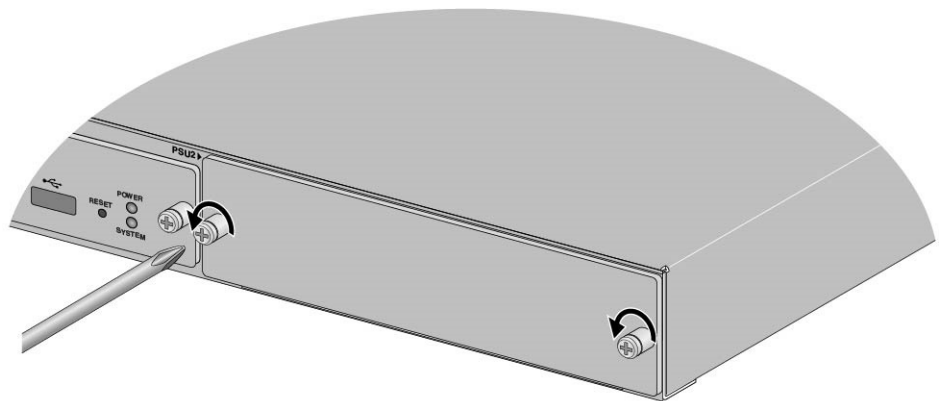

Figure 38. Loosening the Captive Screws on the Blank Cover on a Power Supply Slot
2. With a cross-head screwdriver, loosen the two captive screws on the blank cover over the power supply slot. Refer to Figure 38.